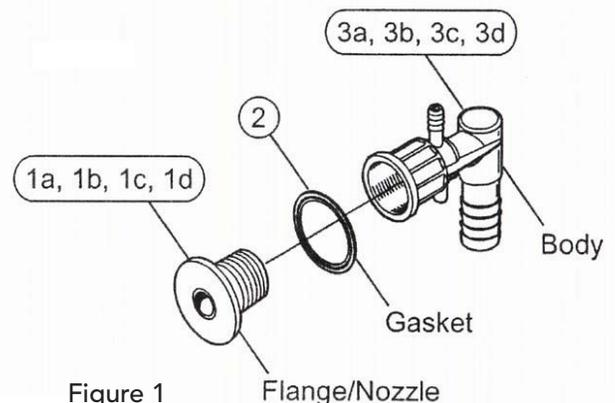

Figure 1
2. Position the GASKET on the FLANGE / NOZZLE, see Figure 1.